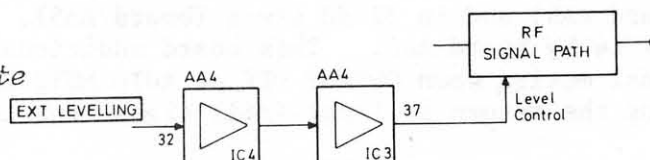

Fig. 11 Board AA4 a.l.c. mode selection
36. This board enables the sender to operate in the four ALC modes, internal local, external local, internal remote and external remote. Bilateral switches IC6 and IC7 under the control of latch IC5 are used to variously interconnect sections of the circuit to provide the different signal paths which define each mode. For the internal local mode the FINE LEVEL control may be used to adjust the output signal level. For both local and remote operation an external levelling signal may be used when selected by the EXT LEVELLING switch. The settings of the bilateral switches for each a.l.c. mode are shown in Table 1, and block diagrams of the four a.l.c. modes are shown in Fig. 11.
37. This mode is shown in Fig. 11(a). For this a.l.c. mode the level control signal is formed by the difference between the detected signal input from AA3 and the sum of +10 dBm reference, the 0.01 dB steps, and either the 0.1 dB steps or the FINE LEVEL control output. When KEYBOARD + FINE is selected, the d.c. signal from the FINE LEVEL control is taken via IC2 to the meter for display and in order to linearize the meter reading IC2 amplification factor changes depending upon the polarity of the input signal. When the FINE LEVEL control, which is connected across the supply rails, is set for a maximum output level a negative voltage is applied to the inverting input of IC1. IC1 output is further inverted by IC2 causing diode D1 to be forward biased. With D1 conducting the feedback path for IC2 is through R5 and the meter drive current is through R6 in series with R7. When the FINE LEVEL control is set to its minimum position D2 is forward biased causing R5 and R6 to form the amplifier feedback path thus increasing IC2 gain and the meter drive is now through R7 alone.
39. In this a.l.c. mode the input from the EXT LEVELLING socket is summed with the output from the FINE LEVEL control to provide the level control signal, and the meter is used to monitor the r.f. signal level (see Fig. 11(b)). When EXT LEVELLING is selected, the input at contact 32 is fed to amplifier IC4 which provides a voltage gain of 5. This signal is then summed with the FINE LEVEL control output by IC3, which provides a further voltage gain of 5, and the result is used as the level control signal. The overall level control sensitivity is approximately 30 mV/dB in the range ± 1.1 dB.
41. As shown in Fig. 11(c) the level control signal is provided by the difference in levels between the detected signal input and the sum of the +10 dBm reference, the 0.01 dB steps and the 0.1 dB steps. The resulting level error voltage is integrated by IC3 by C2 being switched into circuit. For frequencies below 6 kHz C3 is switched in parallel with C2 to provide a longer integrator time constant. In this mode the FINE LEVEL control and meter are both disabled.
42. For this mode, shown in Fig. 11(d) the instrument is under programmable operation with an external levelling signal applied. This is amplified by IC4 and IC3 which each provide a voltage gain of 5 and the output used as the level control signal. In this mode the FINE LEVEL control and meter are both disabled.